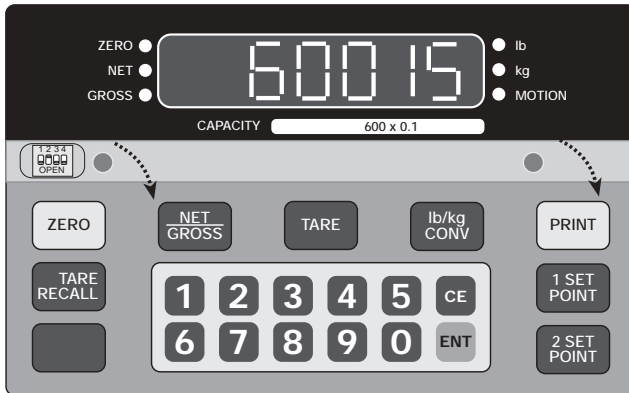

Figure 3-1. Accessing the Program Switches
1. Unscrew the two screws on the face plate bracket (See Figure 3-1). The bracket drops down, exposing four program switches on the left.